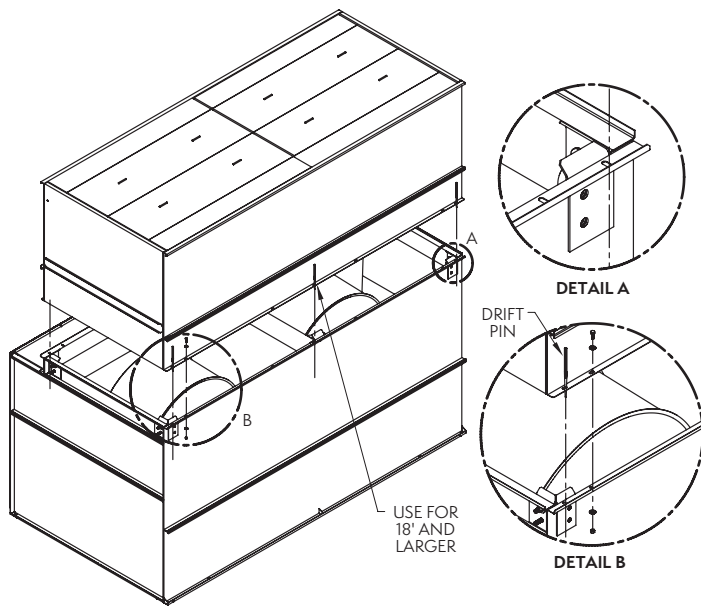

Figure 12 – Mating Casing (Top) Section to Basin & Fan (Bottom) Section
Lower the casing section to within several inches of the basin and fan section, making sure the two sections do not touch and the sealer tape is not disturbed. Place drift pins (see **Figure 12 and 13**) in at least three (3) of the corner mounting holes and gradually lower the casing section into place using the drift pins to guide the section down accurately onto the mating flange. On long sections, 18 feet and longer, drift pins should be used midway along the sides as well.